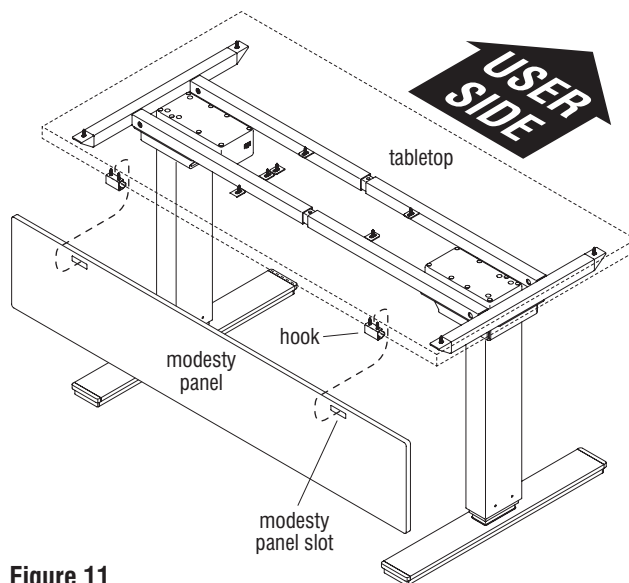

Figure 11
3. Position the modesty panel underneath the back, non-user side of the tabletop, near the hooks. Using the slots on the panel, hang the panel onto each hook (Figure 11, Details G & H).